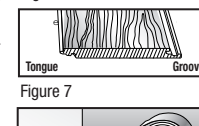
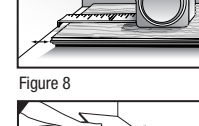

Figure 7
Figure 8
- Starting from the LEFT with the tongue facing the wall (Figure 7), carefully place the first board in place (Figure 8). Use wedges or 1/2" (13 mm) scrap (Figure 9) along the wall to hold plank in place while allowing the required expansion space.
- Starting from the LEFT with the tongue facing the wall, carefully place the first board in place. Use wedges or 1/4" (6 mm) scrap (Figures 7, 8, 9) along the wall to hold plank in place while allowing the required expansion space.